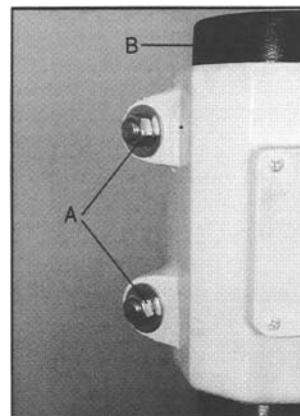

Figure 5
3. Loosen two nuts (A, Figure 5) on the head assembly.
4. Raise the head by raising the table. The head is at the correct height when the top of the head is just below the column cap (B, Figure 5).
5. Tighten the two nuts (A, Figure 5) on the head assembly firmly.
1. Make sure both head assembly nuts (A, Figure 5) are tight.